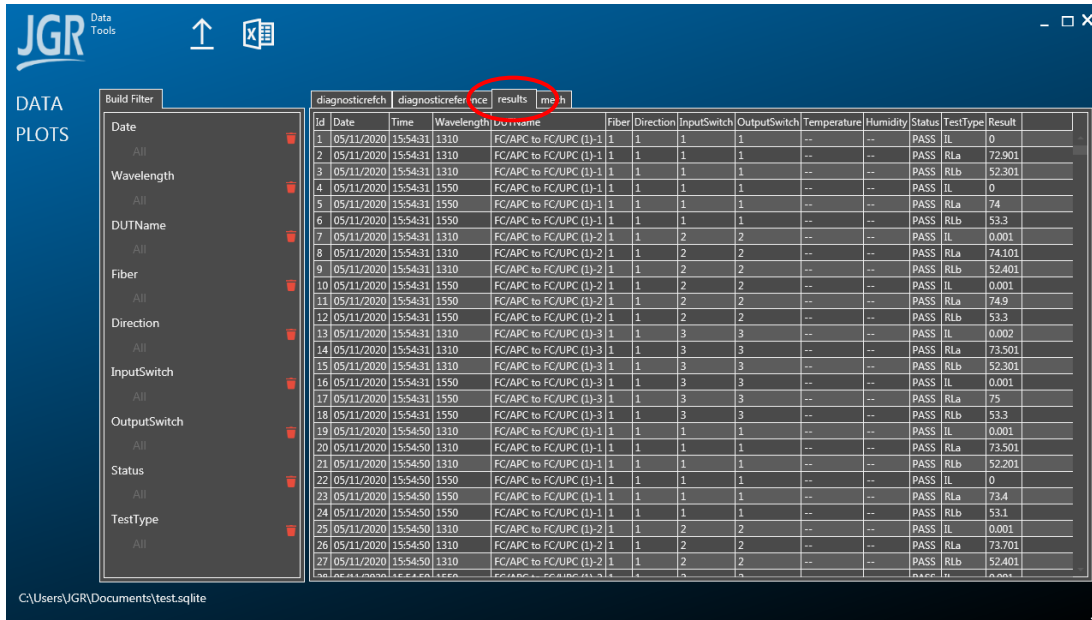

Figure 41: Data Tools – raw data in table form
- Results can be viewed in table form (Figure 41).